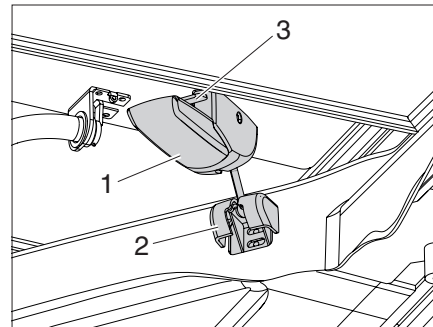

Fig. 34 Releasing the locks on the left and right
- ▶ Push up the locking lever (Fig. 34,3) and at the same time pull down the lock (Fig. 34,1) on the left and right.
- ▶ Remove the pin (Fig. 34,2) from the holder.